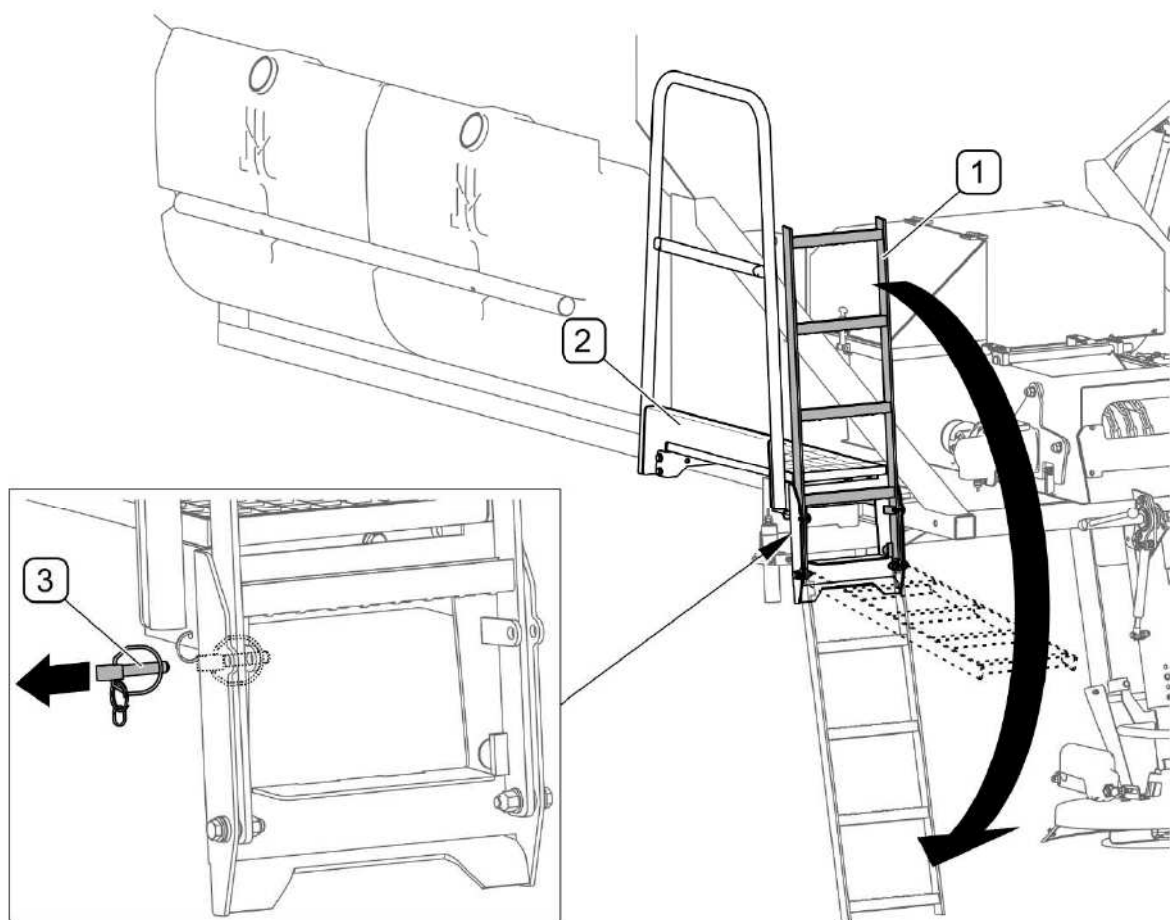

FIG. 4.14 Ladder and platform
(1) - ladder; (2) - platform; (3) - securing cotter pin
The platform (FIG. 4.14) fitted with ladder (1) facilitates raising and lowering of tarpaulin cover.
To lower the ladder (FIG. 4.14):